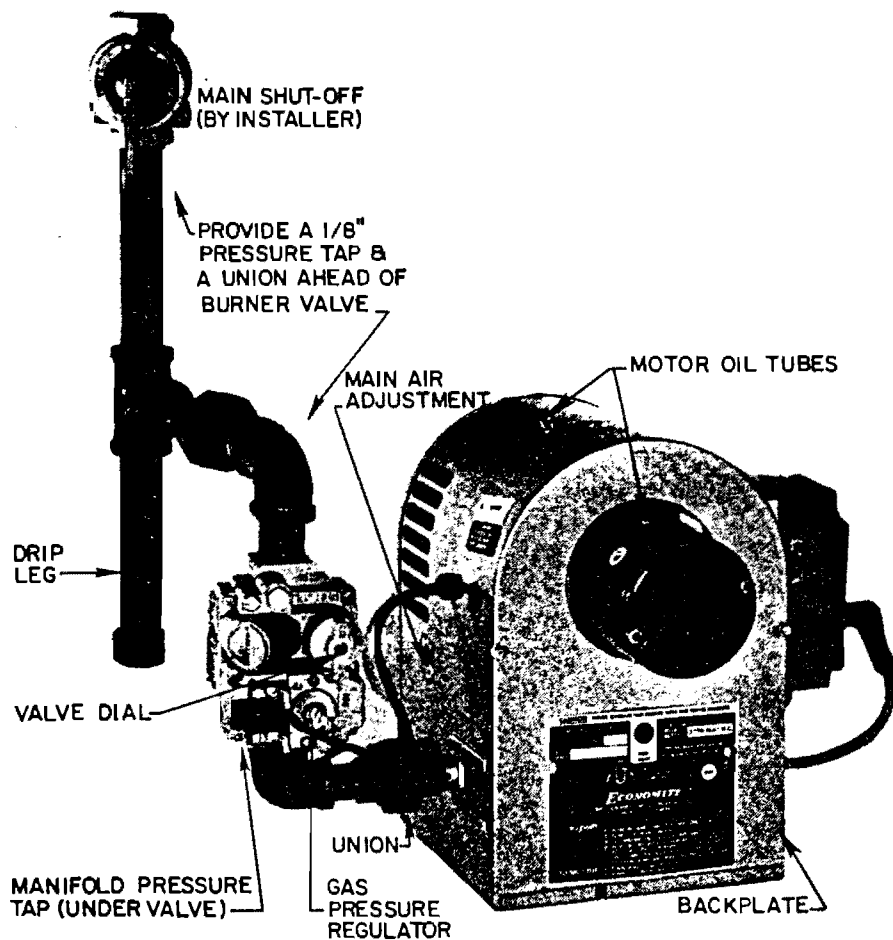

Figure 1-2
7. The air shutter is located on the regulator side of the burner (Fig. 1-2). It should be adjusted to provide a quiet, soft flame blue at the burner nozzle with well defined orange and yellow tips for natural gas or well defined yellow tips for propane gas. The air shutter has been adjusted at the factory, but may need readjustment due to a change in gas pressure or air flow conditions. If readjustment is necessary, the primary burner flame should never protrude from the burning chamber more than 1". It should never come in contact with the parts being cleaned or the cart holding them.